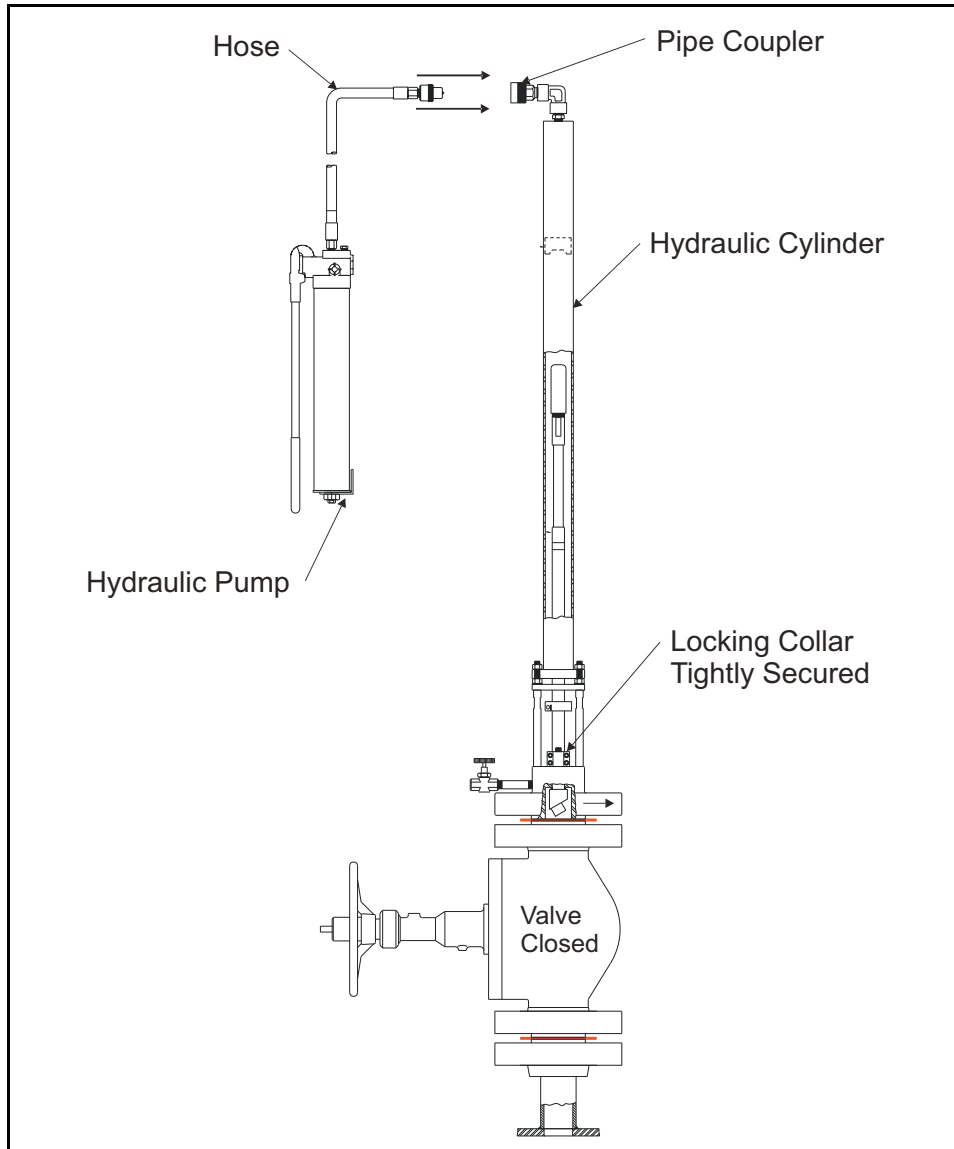

Figure 21: Attaching the Hydraulic Pump
3. Refer to *Figure 21* below and attach the hose of the hydraulic pump to the hydraulic cylinder at the pipe coupler.